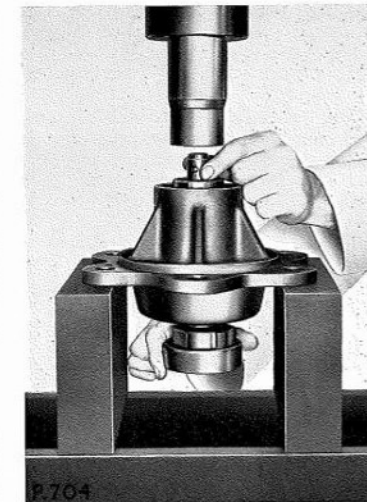

Fig. F.5. Pressing out the KA.30 front hub inner bearing cup using the Remover Pad of Churchill Tool R.G.324 together with the Universal Handle 550
2. The internal shoulders of the hub, on which the bearing cups locate, are slotted at diametrically opposite points to facilitate the removal of the cups. Using the Churchill Remover Pad R.G.325 and the Churchill Universal Handle 550, press out the outer bearing cup. Similarly, press out the inner bearing cup using the remover pad of Churchill Tool R.G.324 for KA.30 models (R.G.323 for KA.40/60 models) together with the Universal Handle 550 (see Fig. F.5).
Note: When pressing out the bearing cups, the Universal Handle 550 is used in the reversed position, as shown in the illustration (Fig. F.5).